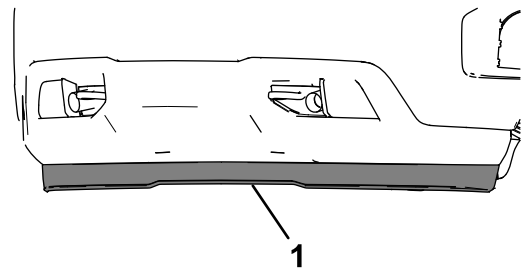

Figure 1
2. Remove the lower valance from the front of the vehicle (Figure 1). If you plan to use a bumper trim kit, install it now; refer to your bumper trim kit *Installation Instructions*.